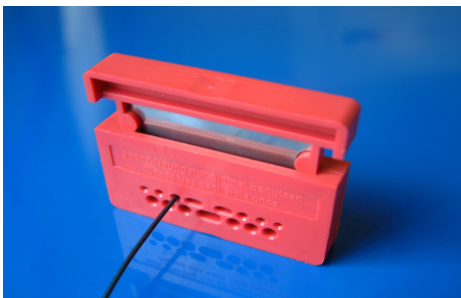

Figure 18a.
- Pull up the razor blade, Push fiber into the selected aperture until the damaged region is approximately 2 mm beyond the razor blade. (figure 18a)